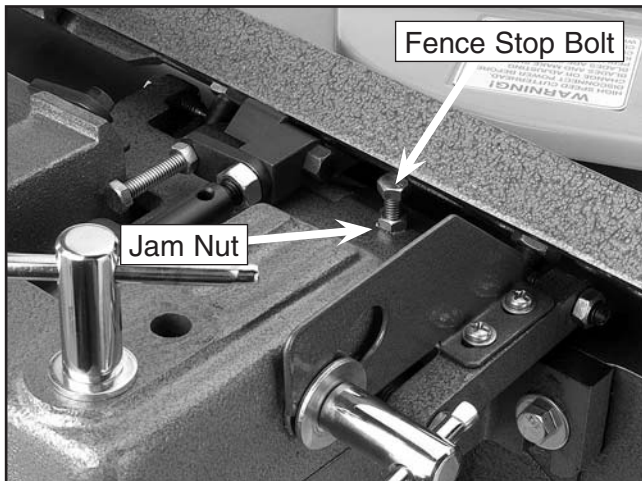

Figure 52. 45° outward fence stop jam nut.
2. Loosen the jam nut on the 45° outward fence stop bolt (**Figure 52**).